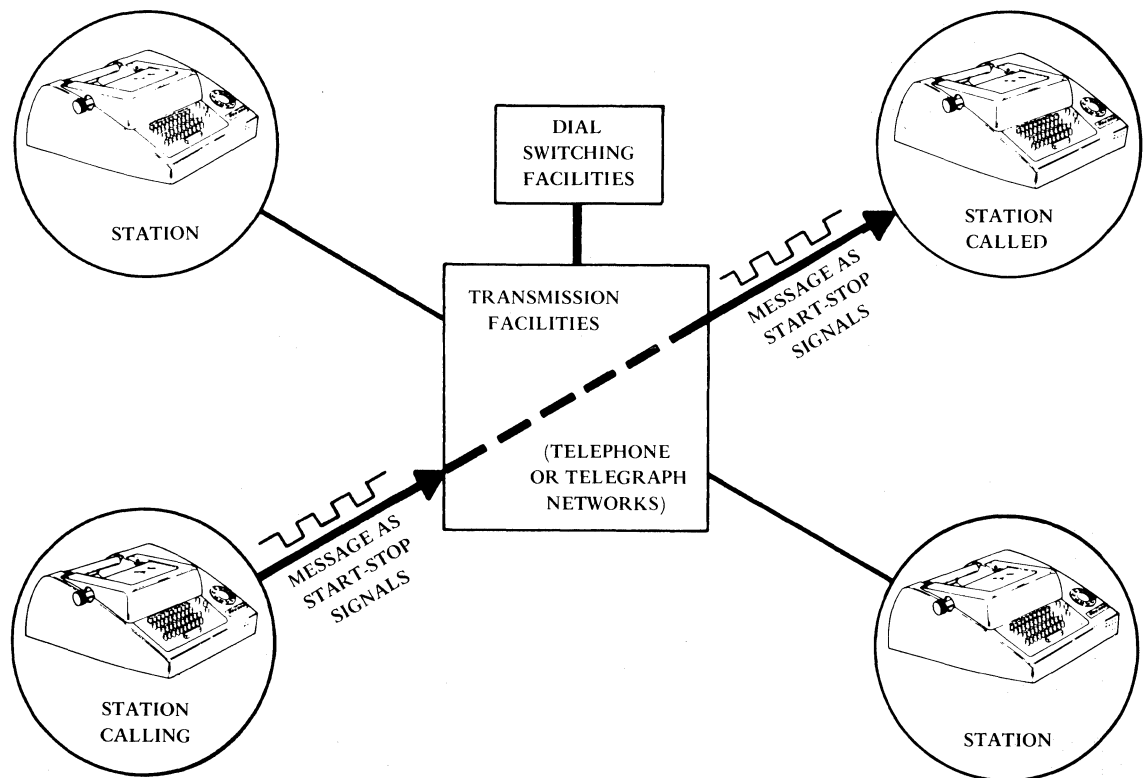

Figure 9 - Typical Applications
5.01 The following is a brief description of how 33 Teletypewriter Sets, equipped with call control and answer-back features, may be used in a typical telephone or telegraph network communication system (Figure 9). When a call is to be made, an operator uses the controls on the teletypewriter set to gain access to the system switching and transmission facilities, which may be dial telephone or telegraph networks. The operator then dials the number of the called station.